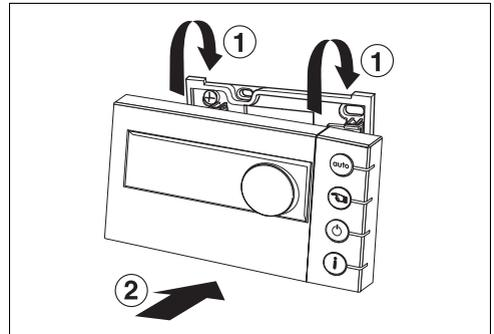

Fig. 17 Lock the thermostat into place
- Hook the thermostat at the back of the base panel (Fig. 17, step 1).
- Press the bottom of the thermostat against the base panel, until an audible "click" (Fig. 17, step 2). The thermostat is then locked into the wall panel.